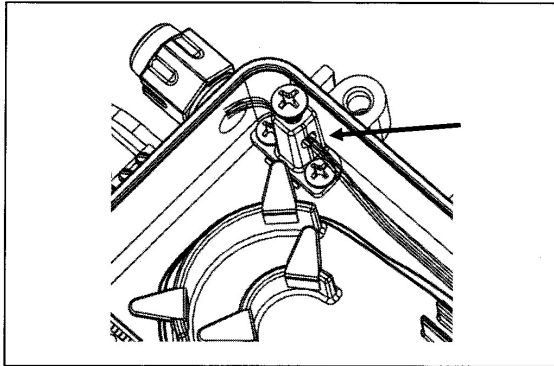

Figure 4. Strength member clamp
- ⑤ Remove the fiber cable sheath leaving approximately 2 inches of sheathing inside the enclosure.
- ⑥ Separate the aramid yarn/strength member. Locate the Strength Member Clamp opposite from the ingress port. Feed the strength member through the opening in the Strength Member Clamp as shown in Figure 4 and tighten the screw.
- ⑦ Wrap fiber around the fiber spool. Inner spool supports and protects 900 micron fiber.
- ⑧ Splice or terminate the cable as needed.
- ⑨ Replace cover and tighten thumb screws.